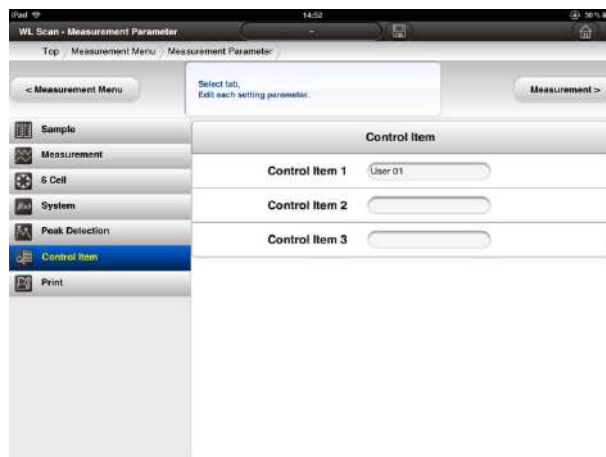

Fig. 4-76 Control Item Window
- (1) Press  [control item tab] to set control items.
- (2) The control item window window (Fig. 4-76) will then be shown.